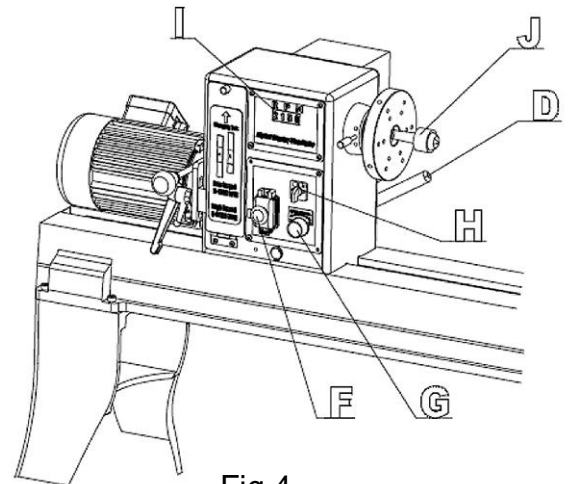

Fig 4.
1. **Headstock Lock Handle:** (D, Fig.4) Locks head in position. Unlock handle to position the head along lathe bed. Tighten handle when properly positioned.
2. **Headstock On/Off Button:** (F, Fig.4) Pull the button out to turn "ON" the lathe. Push the button in to turn the lathe "OFF".
3. **Headstock RPM Knob:** (G, Fig. 4) Turn knob to desired RPM. There are two speed ranges offering "speed" (330-3200) and "torque" (100-1200).
4. **Headstock For/Rev Switch:** (H, Fig. 4) Use the toggle switch to change the direction the spindle turns. Only change direction when the spindle has stopped.
5. **Headstock RPM Readout:** (I, Fig. 4) Displays the spindles RPM, see Figure 5.